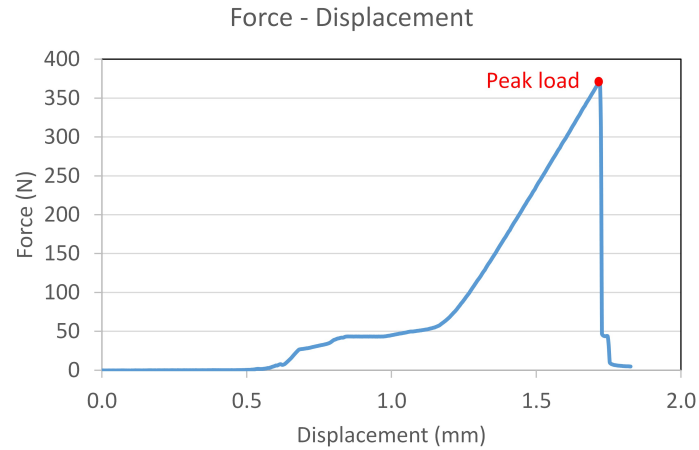

Figure 2: A typical load-displacement curve for a fracture mechanics test with the CT specimen.
To perform the test, we use a universal testing machine by INSTRON (Model 8862 with ± 100 kN loading capacity) as shown in Figure 1. The type of fixtures used in this machine can be changed to apply tensile, compressive, or bending loads. In this session, we deal with a tensile setup. The data obtained from this test are the load (F) measured by the load cell and the machine displacement (d). A typical load-displacement curve for a CT specimen is shown in Figure 2. The peak load (F_c) is indicated with a red circle on the plot. Having the peak load, one can obtain the fracture toughness (K_{Ic}) and the critical energy release rate (G_c) as follows: